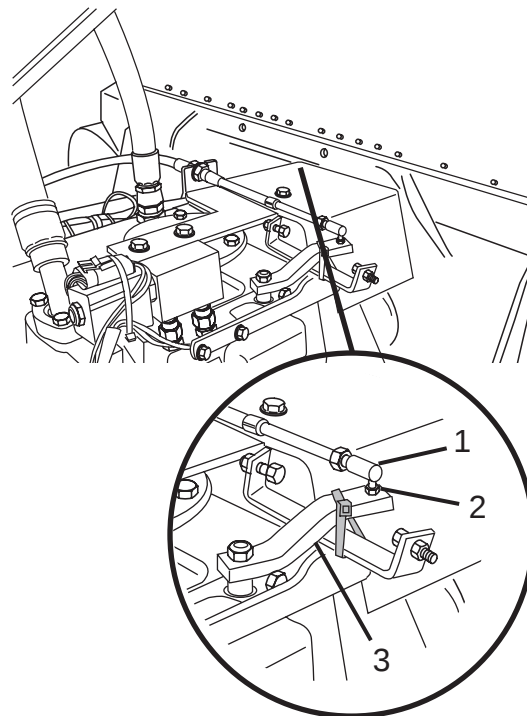

Figure 32
1. Pull back and hold the head (Figure 32, Item 1) of the control cable, and lift the end of the cable off the pivot (Figure 32, Item 2) to disconnect the control cable from the pump control lever (Figure 32, Item 3).
2. Move the pump control lever (Figure 32, Item 3) as required to start the drum rotation in the charge or discharge direction.